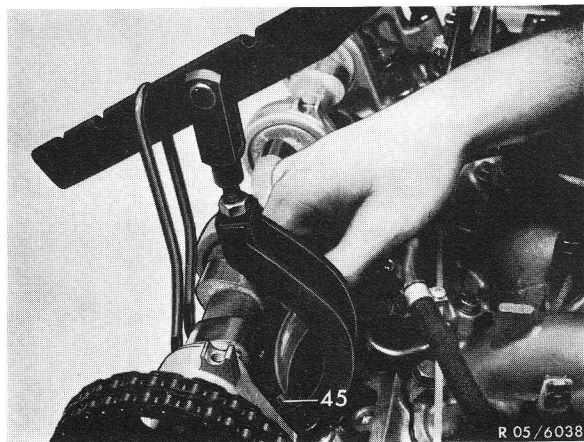

Fig. 3
- 4 Use removal and installation tool and push valve spring retainer downwards until the valve cone halves (45) are free and can be removed with the magnetic lifter (Fig. 3).